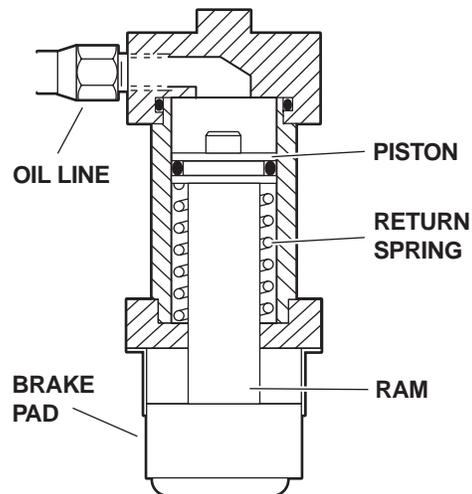

Figure 1-15. Single Action Brake Cylinder
6. Brake Cylinders - The brake cylinders are single action type similar to the elevation cylinder. The movable piston's ram is connected to a brake pad. See figure 1-15. Oil pumped into the top of the cylinder pushes the piston down raising the table base off its casters. An internal return spring on the bottom of the piston, pushes the piston up to return the oil through the mini-valve to the reservoir.